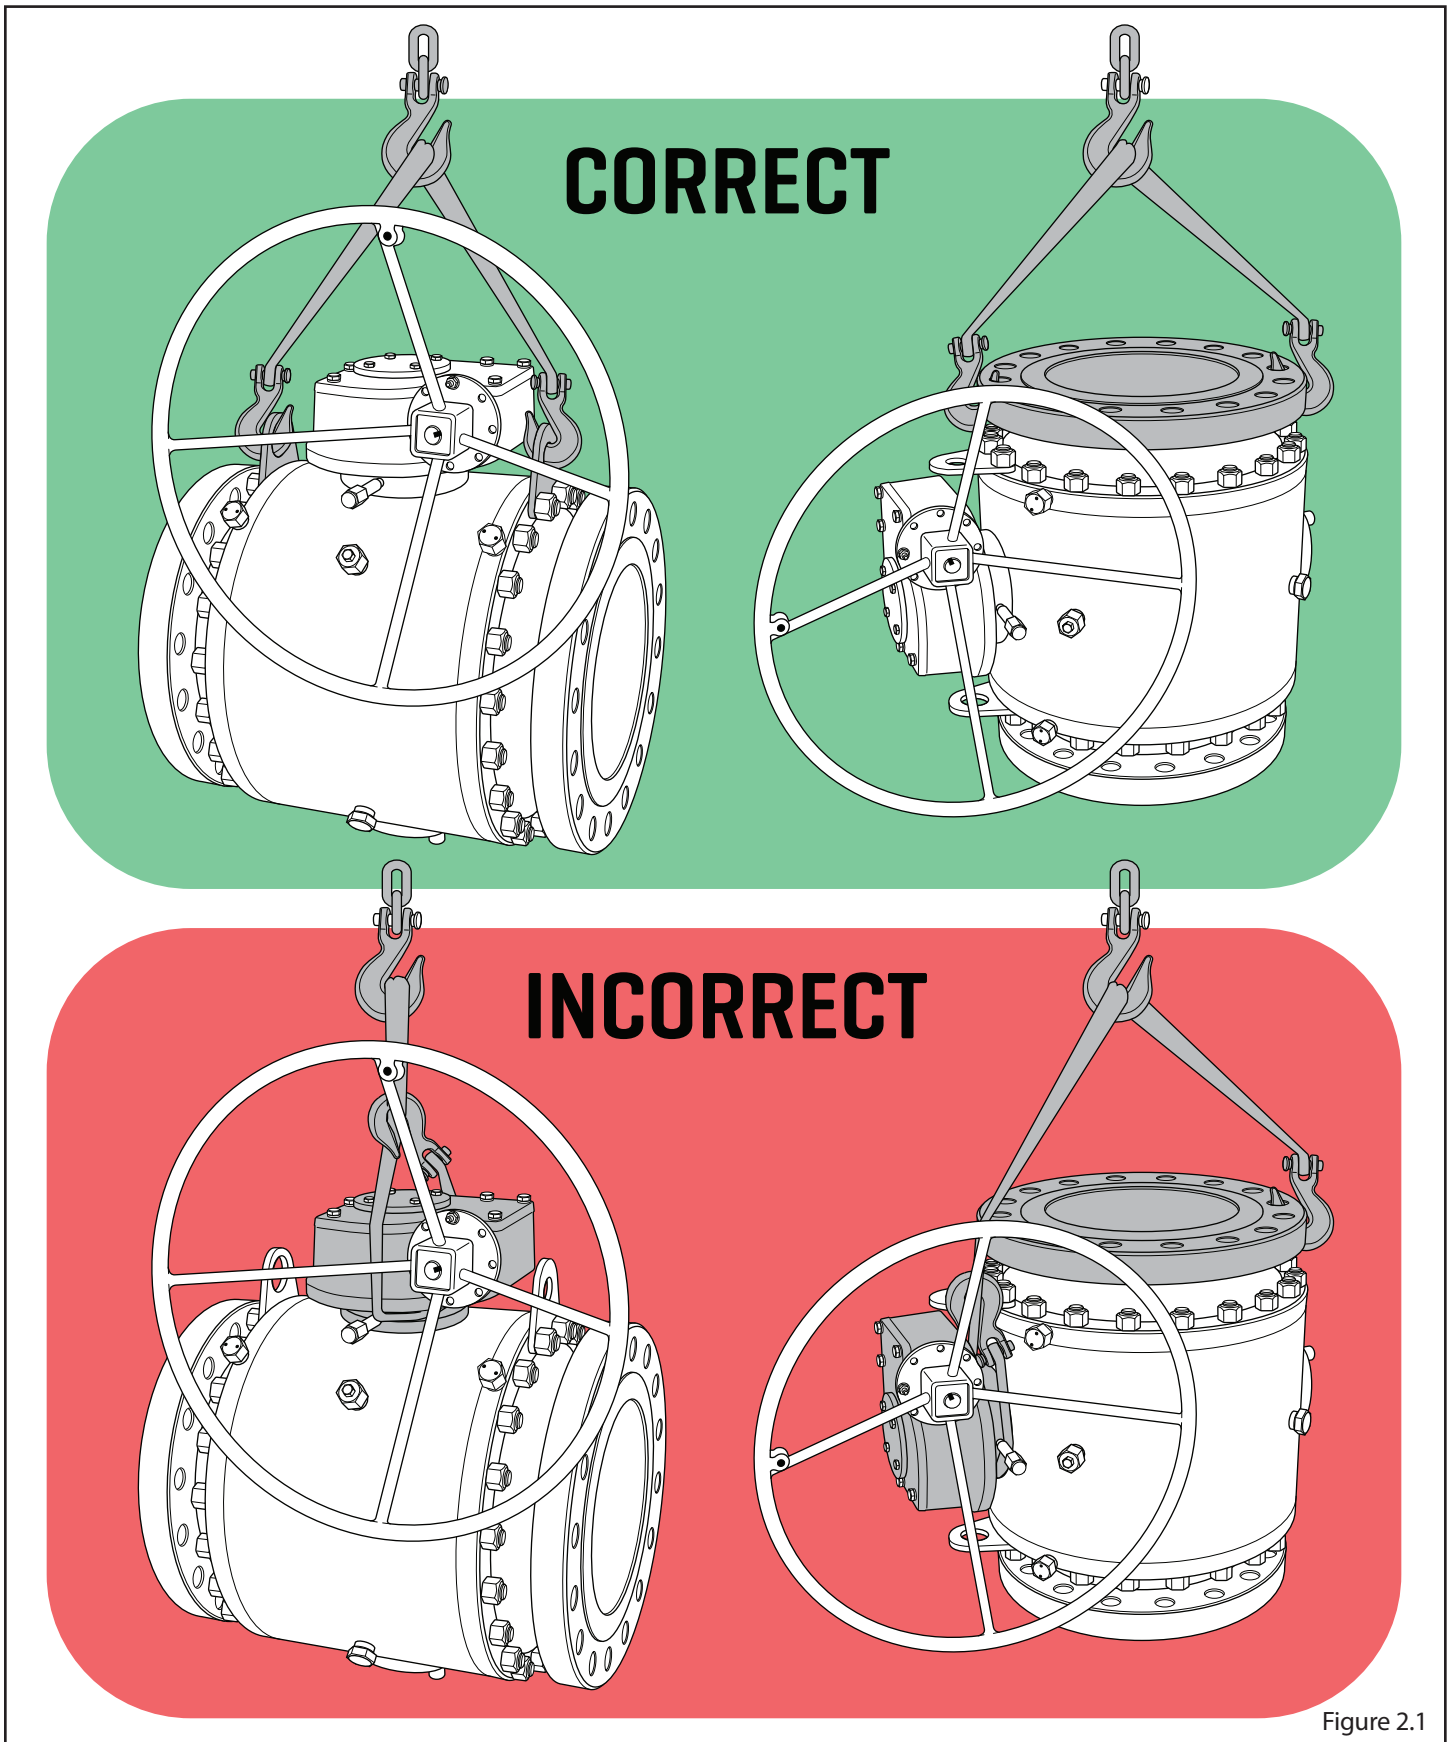

Figure 2.1
9. Place an approved lifting device securely around the valve body or use lifting hooks while handling the valve. Special care should be taken not to damage the lever/gearbox/actuator. [Figure 2.1]